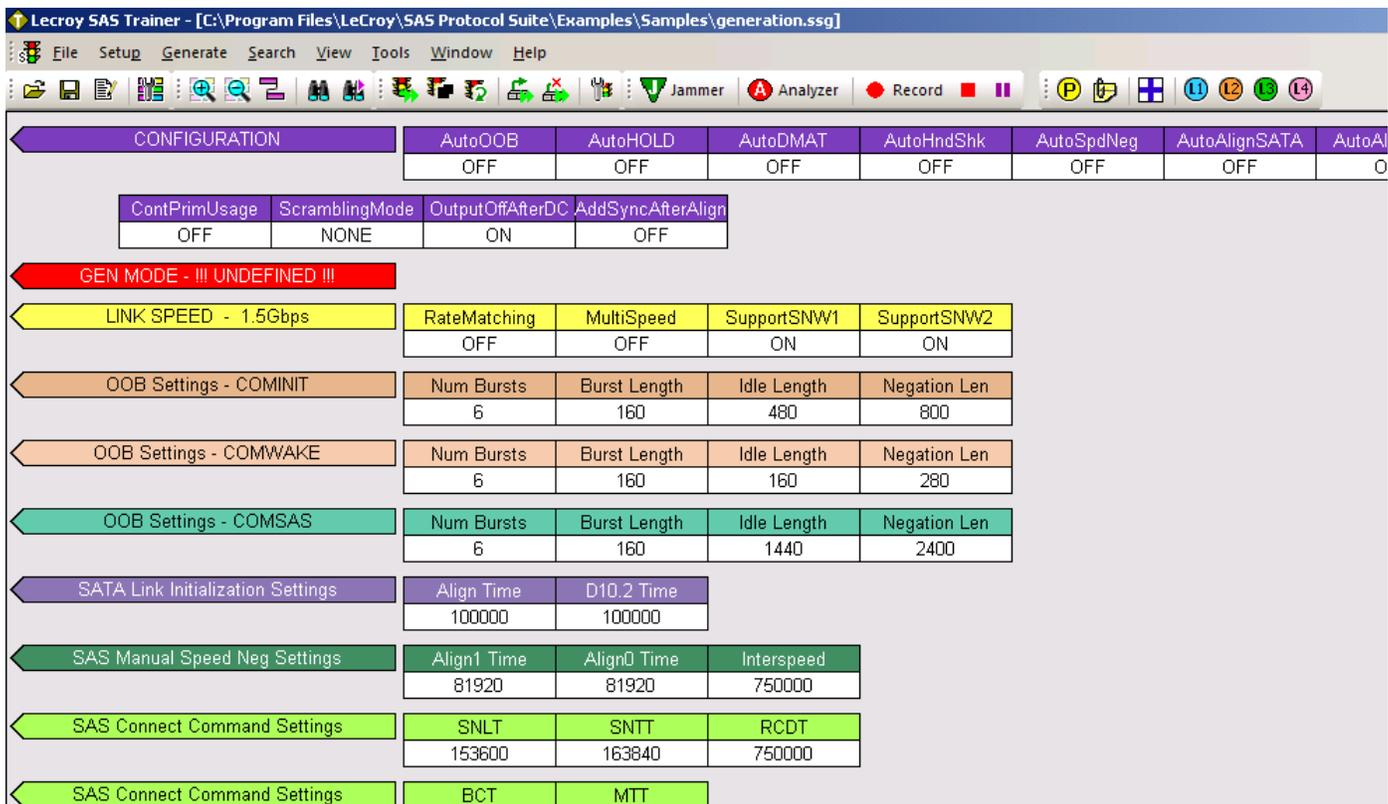

Figure 5.11: Sierra Trainer Generator File
2. Select a Generator text file (**\*.ssg**) and click **Open** to display the file (see Figure 5.11 on page 301). (The install directory contains example files.)